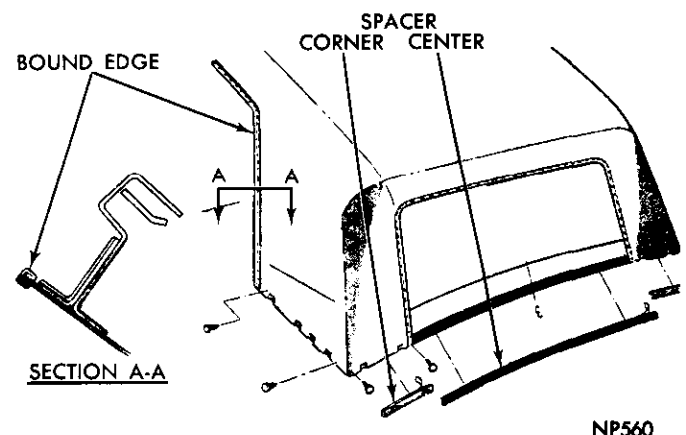

Fig. 15—Cover Application at Rear
(12) Starting from either side, pull cover taut, locating quarter window binding and weatherstrip flap to leading edge of "L" shape bracket on rear roof rail.
(13) Secure cover to bow, near seam area, with 3 tacks.
(14) Perform steps 12 and 13 for opposite side.
(15) Install tacks or staples to open areas between cover seams and centerline mark.
(16) Install 1 tack (10 oz.) at each seam.
(17) Position side tension cables through brackets on rear roof rails and secure eyes of cables to roof rails with screws.
(18) Cut notches in cover side quarter material at tacking strip for bolt clearance (Fig. 15).
(19) Apply spacer strips to cover material at belt bar corners and center areas (Fig. 15).
(20) Raise and prop top header approximately 12 inches off of windshield header.